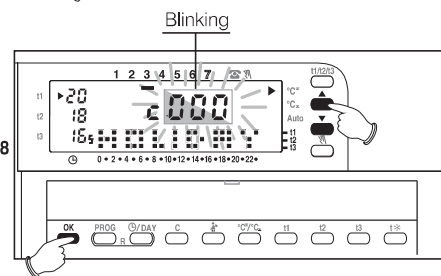

Fig. 38
- Press **OK** to confirm (fig. 38).